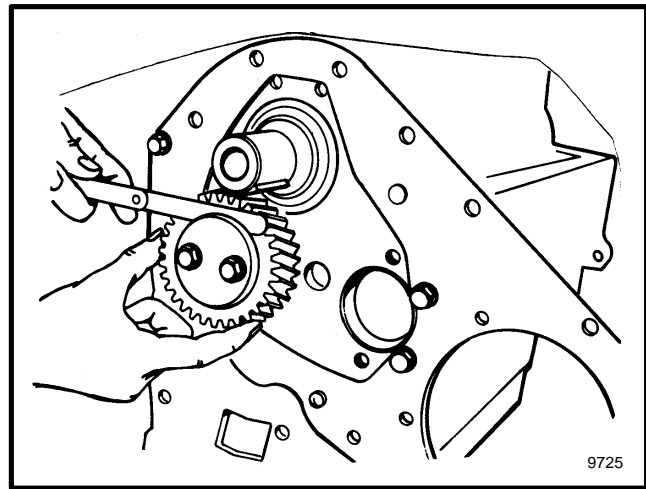

FIGURE 24. CHECK THE CLEARANCE BETWEEN THE IDLER GEAR AND THE RETAINER PLATE
6. Use a thickness gauge to measure the clearance between the idler gear and the retainer. See FIGURE 24. The maximum amount of clearance between the parts is 0.2 mm (0.008 in).